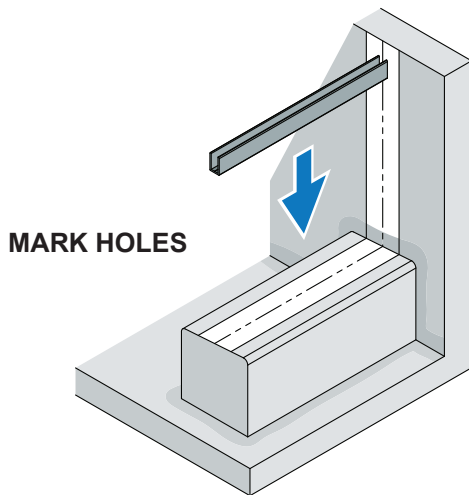

Figure 5
1. Place each channel on top of the center line and mark the hole locations. (Figure 5)